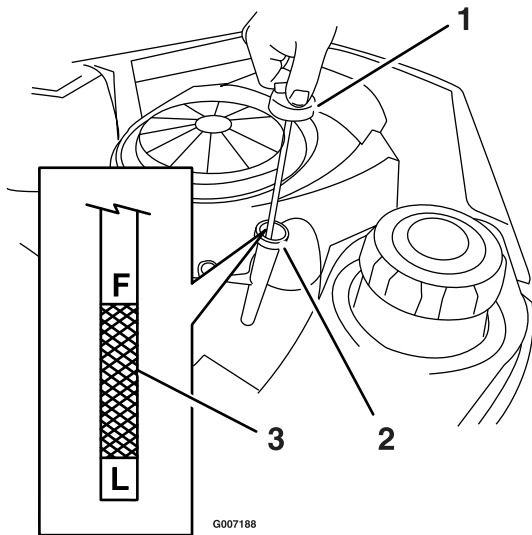
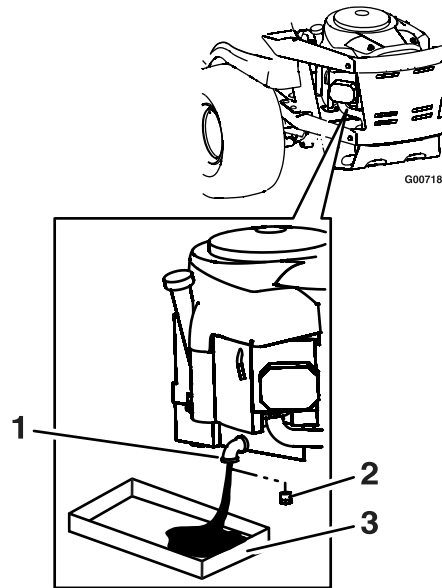

Figure 19
Figure 20
4. Pull and remove the oil fill cap/dipstick; wipe oil off. Reinsert the dipstick and push firmly into place (Figure 19).
4. Clean the area around the drain plug and on the machine frame. Place a pan underneath machine directly below the drain hole in the frame as shown in Figure 20.
5. Remove the oil drain plug (Figure 20). Remove the oil fill cap/dipstick (Figure 19).
in-lb) torque. Wipe up any excess oil on the frame (Figure 20).
13. Check the oil level (Figure 19); refer to **Checking the Oil Level**.